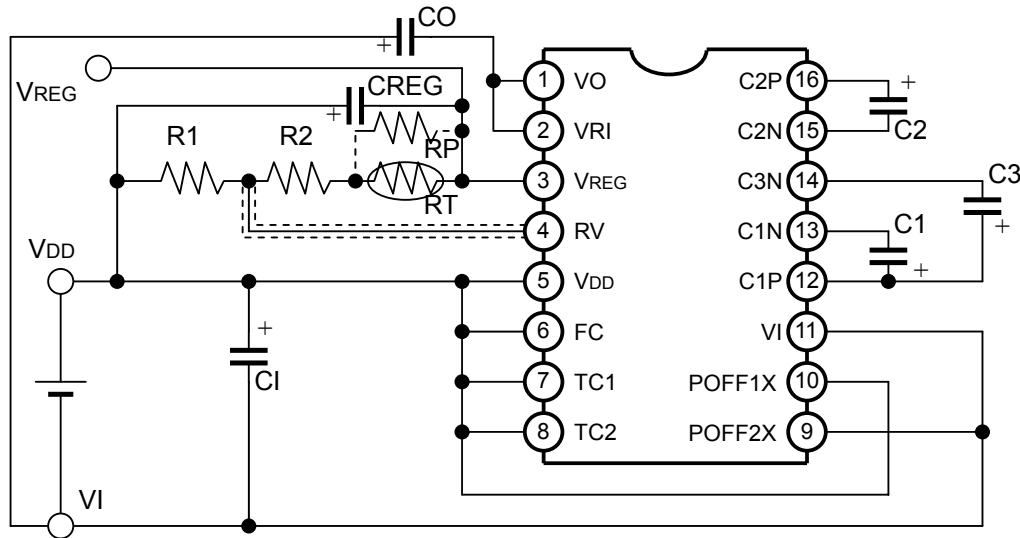

Fig.9.15 Connection Example when Changing the Regulator Temperature Coefficient
When setting the other temperature coefficient, use a thermistor resistor, etc. as shown in Fig.9.15.
- ◇ Fig.9.15 Setting conditions
- Set the POFF1X pin to level LOW (VI); all circuits will be turned off.
- The temperature characteristics of the thermistor resistor RT indicate the nonlinearity. When compensating the linear characteristics, insert the RP shown in Fig.9.15.
- ① When using the high output mode